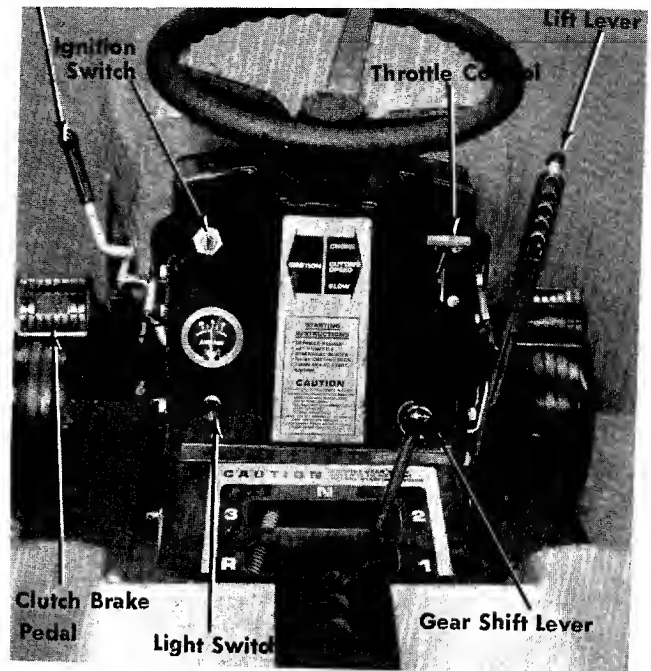

FIGURE 10. PARKING BRAKE
d. Clutch-Brake Pedals Depress both of them all the way down to stop of shift gears. Release pedals slowly to engage. See figures 10 and 11.
g. Ignition Switch. Turn the switch all the way to the right to engage the starter. As soon as the engine starts, release the ignition key so that the starter is switched off. Turn the key to the left to shut off the engine. See figure 10.
h. Light Switch. Pull the light switch out to turn on the lights. See figure 10.
i. Ammeter. The ammeter registers the rate of battery charge or discharge. The ammeter should register on the plus (+) side when the engine is running in the fast position until the battery is completely charged. With a fully charged battery or with the engine idling the ammeter will not show a charge. See figure 10.
- Step 2. With the machine set on level ground place the gear shift lever in NEUTRAL (N) position. See figure 10.
- Step 6. Turn the ignition key to the right to START position to start the engine. Allow the key to return to the ON position. See figure 10.
To stop the rider from moving forward or backward, depress the clutch-brake pedals. See figure 10.